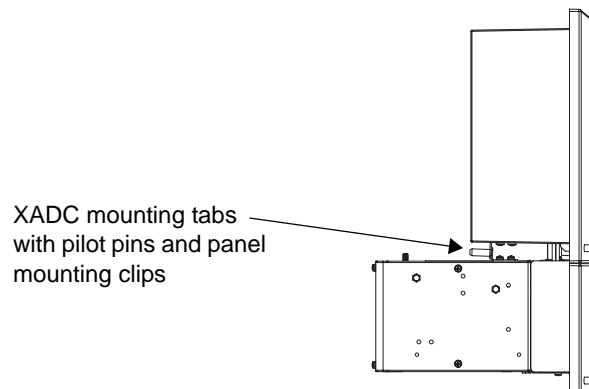

Figure 12 Connecting the XADC and Panel
1. Slide the XADC under the panel until the pilot pins on the mounting tabs on the top of the XADC slide in to the corresponding holes on the mounting clips on the bottom of the panel, see Figure 12.